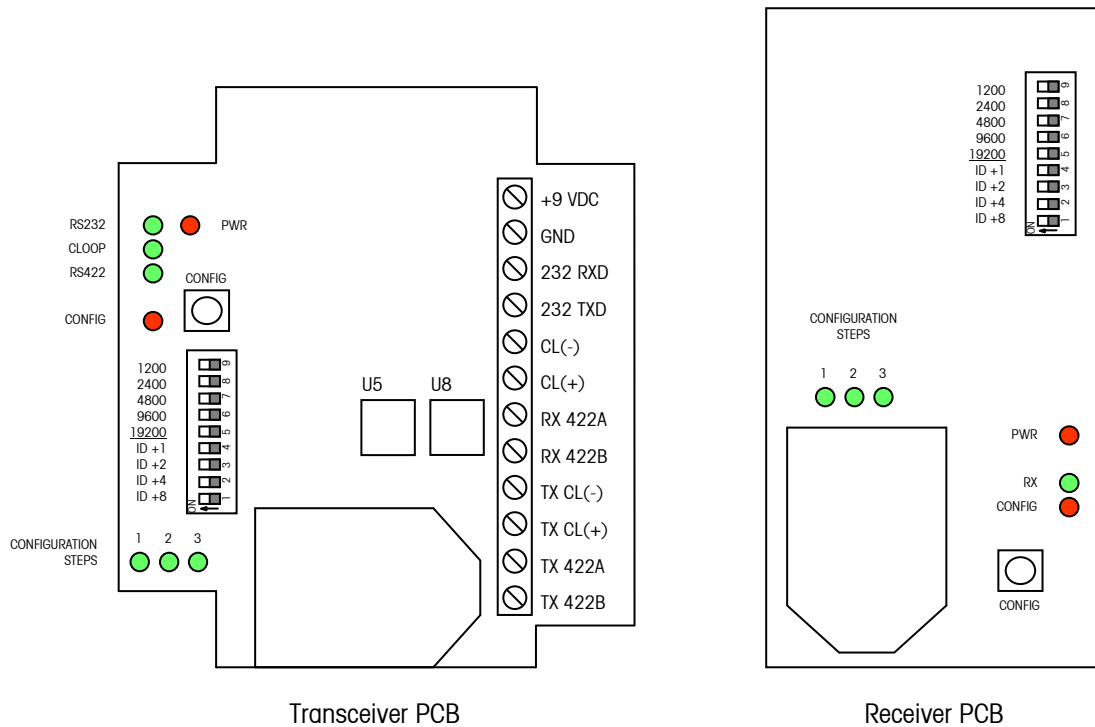

Figure 2-3: Printed Circuit Boards for Wireless Option
2. Set the transceiver for the same baud rate as the scale terminal by setting dip switches 5 to 9 (see Figure 2-3). The switch for the desired baud rate should be on; the other switches should be off. If all switches are off or more than one switch is on, the unit will operate at the default baud rate (9600).
3. Assign an ID to the transceiver by setting dip switches 1 to 4 (see Figure 2-3). There are 16 possible IDs, ranging from ID 0 (all switches off) to ID15 (all switches on). If you are using more than one wireless transceiver, you will need to assign a different ID to each one.
6. Wire one end of the data line cable to the terminal strip on the transceiver's PCB (see Figure 2-3) and the other end to the scale terminal. See Table 2-1 for the correct wiring for each type of terminal. The appropriate LED (RS232, CLOOP, or RS422) will blink to indicate that the wireless signal is being transmitted.
3. Set the receiver for the same baud rate as the transceiver by setting dip switches 5 to 9 (see Figure 2-3). The switch for the desired baud rate should be on; the other switches should be off. If all switches are off or more than one switch is on, the unit will operate at the default baud rate (9600).
4. Assign an ID to the receiver by setting dip switches 1 to 4 (see Figure 2-3). The receiver and transceiver must have the same ID.